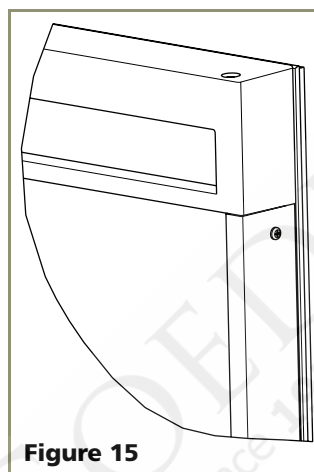

Figure 15
3. Remove two outside screws holding door handle. Slightly separate door handle from door (see **Figure 15**).
3. Press the left rack release lever (see **Figure 15**) down, and at the same time, lift the corresponding right rack release lever up, and pull the rack out until it is free of the tracks and the cabinet.